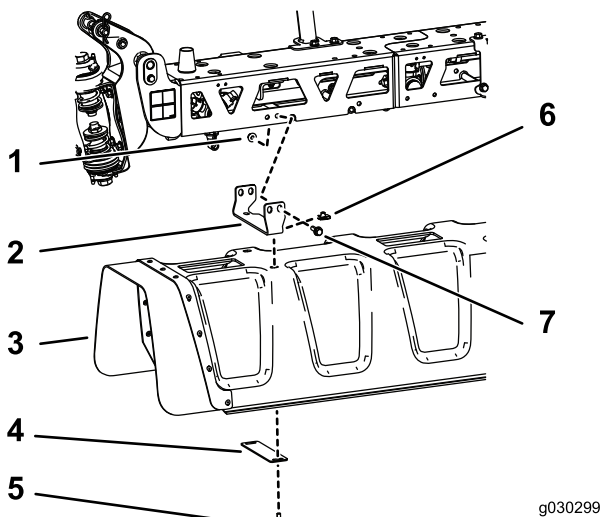

Figure 8
1. Install the center cover to the bracket, using 8 U-nuts, 4 washer plates, and 8 hex-head bolts (5/16 x 1-1/4 inch) as shown in Figure 8.
2. Install each of the 4 center-boom brackets and boom mount plates to the center boom using 4 hex-head bolts (3/8 x 1-1/4 inch) and 4 flange nuts (3/8 inch) as shown in Figure 8.